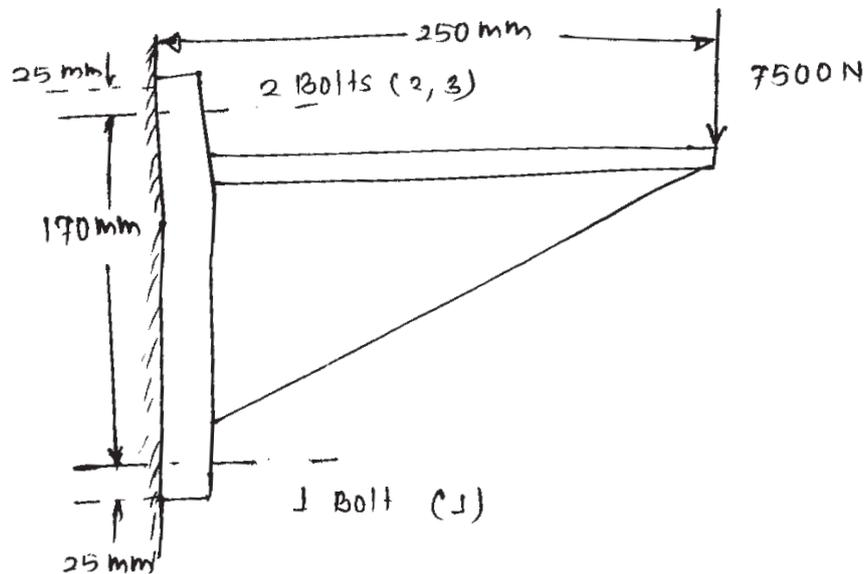

Fig. 2
- b) Fig.2 shows a bracket fixed to the support by means of three bolts. The dimensions are given in figure. The bolts are made of plain carbon steel having tensile yield strength of 380 N/mm^2 . If the factor of safety is 2.5, determine the bolt size. Use the following relationship. [10]